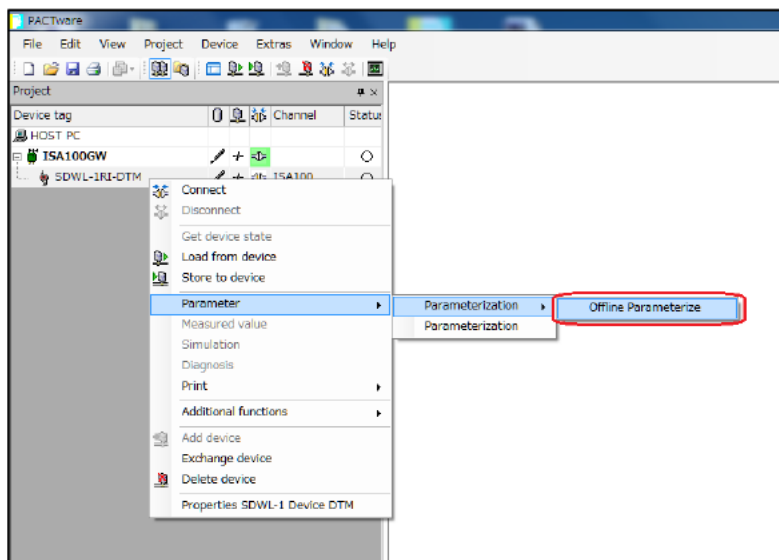

Figure 5-36 Selecting "Offline Parameterize" menu
- ① Follow the instructions in the previous section (for launching online) as far as step ⑪.
- ② Right-click the SDWL-1 (tag name) in the tree menu on the left side of the main window, then select "Offline Parameterize". (Figure 5-36)